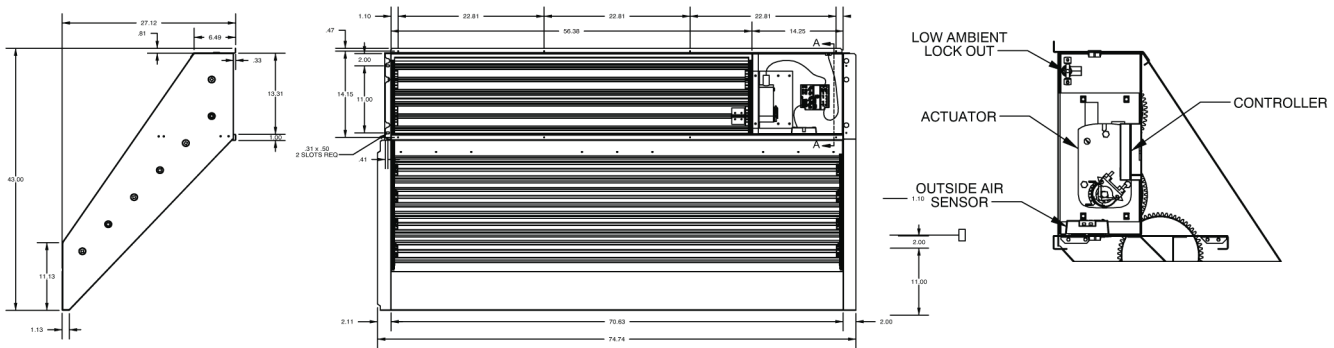

Fig. 1 — Location of Sensor
4. Use the two sheet metal screws (no. 8) from Step 3 to mount the dry bulb sensor on the front left of the EconoMi\$er frame, as shown in Fig. 1 and 2. Use the two screw holes in the EconoMi\$er frame.